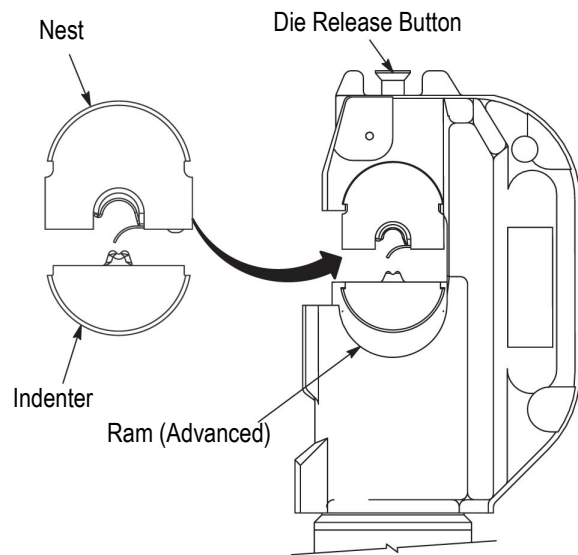

Figure 2
### 3.1. Die Installation (Figure 2)
2. Slide the nest into place in "C"-head. See Figure 2.
6. Slide the indenter into position in the ram. See Figure 2.
### 3.2. Die Removal (Figure 2)